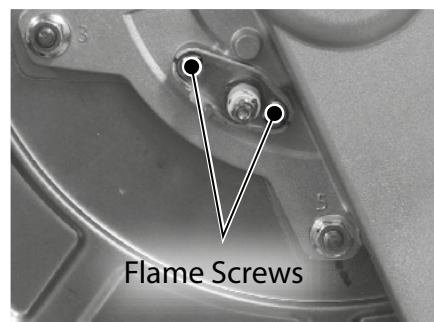

Figure 2 - Remove flame sensor screws
- 6** Use a Phillips screwdriver to remove the two (2) screws securing flame sensor to the burner assembly as shown in Figure 2. Place screws aside in a safe place for reinstallation.